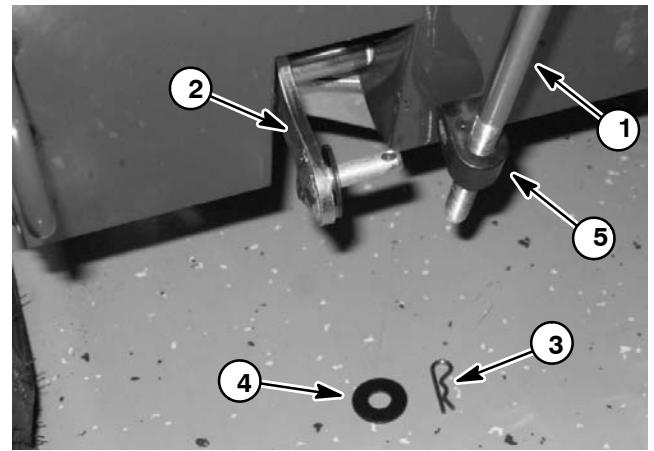

Figure 8
4. Remove the hairpin and flat washer that secure the shift rod to the shift bellcrank at the rear of the machine (Fig. 8).